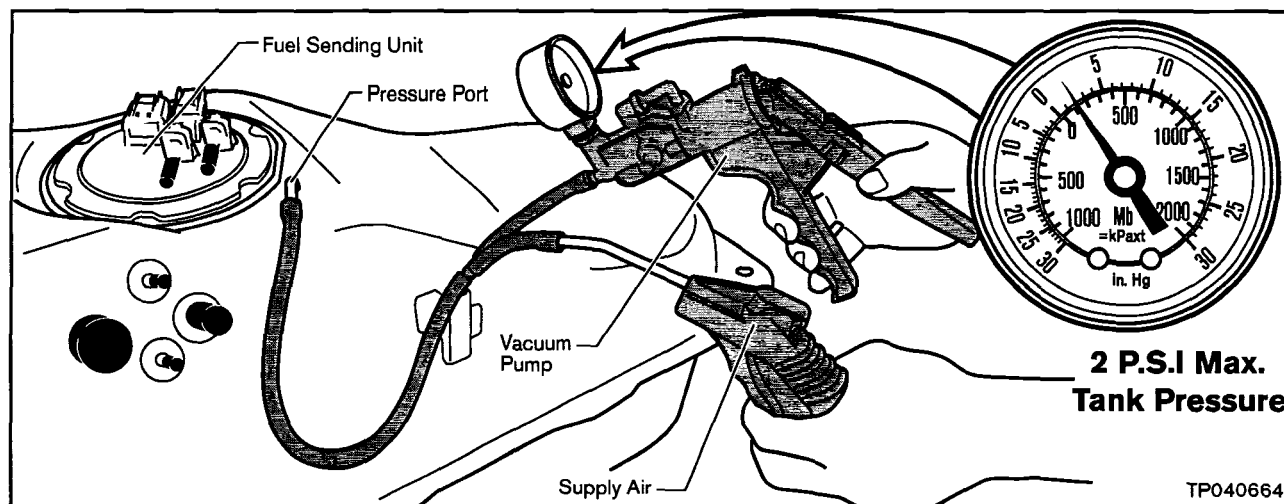

Figure 21
14. Connect Essential Tool Vacuum Pump J-42909 to the Fuel Tank Pressure Port (see Figure 21).